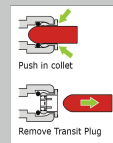

Fig 1
- Remove all transit plug from the rear of the unit (Fig 1)